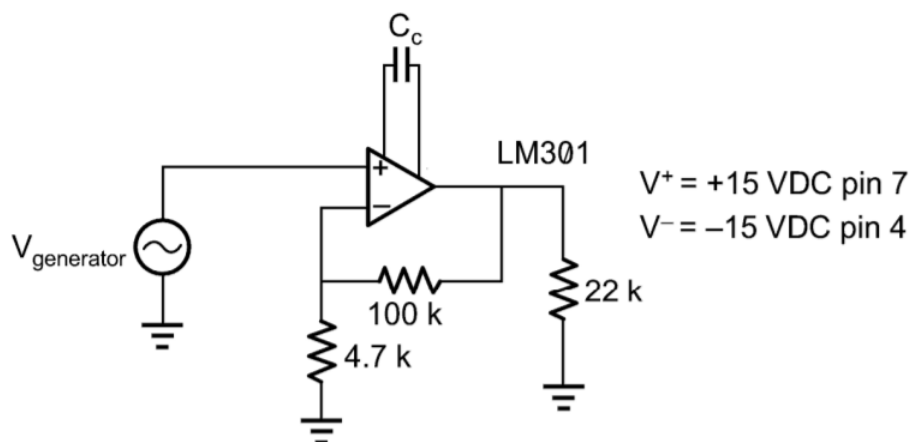

Figure 10.5.1
1. Notice that Figure 10.5.1 is a series-parallel non-inverting voltage amplifier. Calculate the theoretical voltage gain for the amplifier and record it in Table 10.7.1.